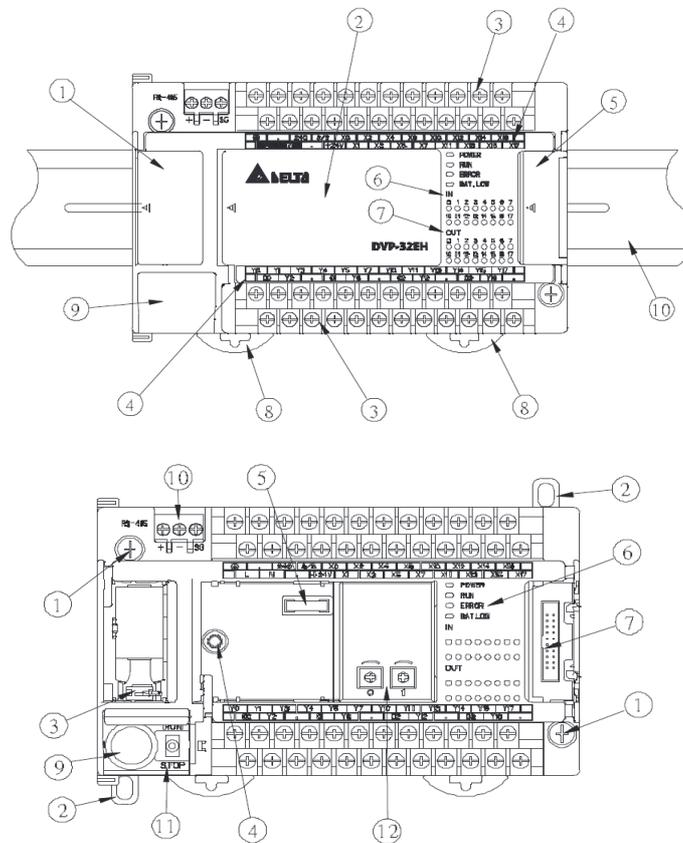

Fig. 10-10 PLC internal battery changing
Replace PLC internal battery: open the battery cover ① at the front side of PLC, take off the battery plug ③, as Fig. 10-10, replace the new battery.